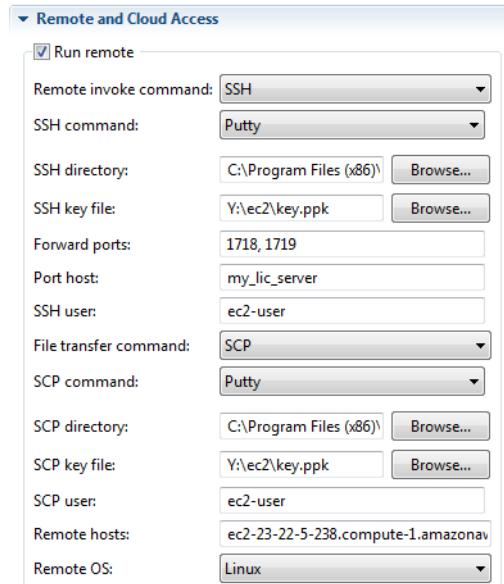

Figure 21-9: An example of Remote and Cloud Access settings section.
- 5 In the Remote Hosts section of the Cluster Sweep settings (see Figure 21-9), add the IP addresses of all used instances, separated by commas.